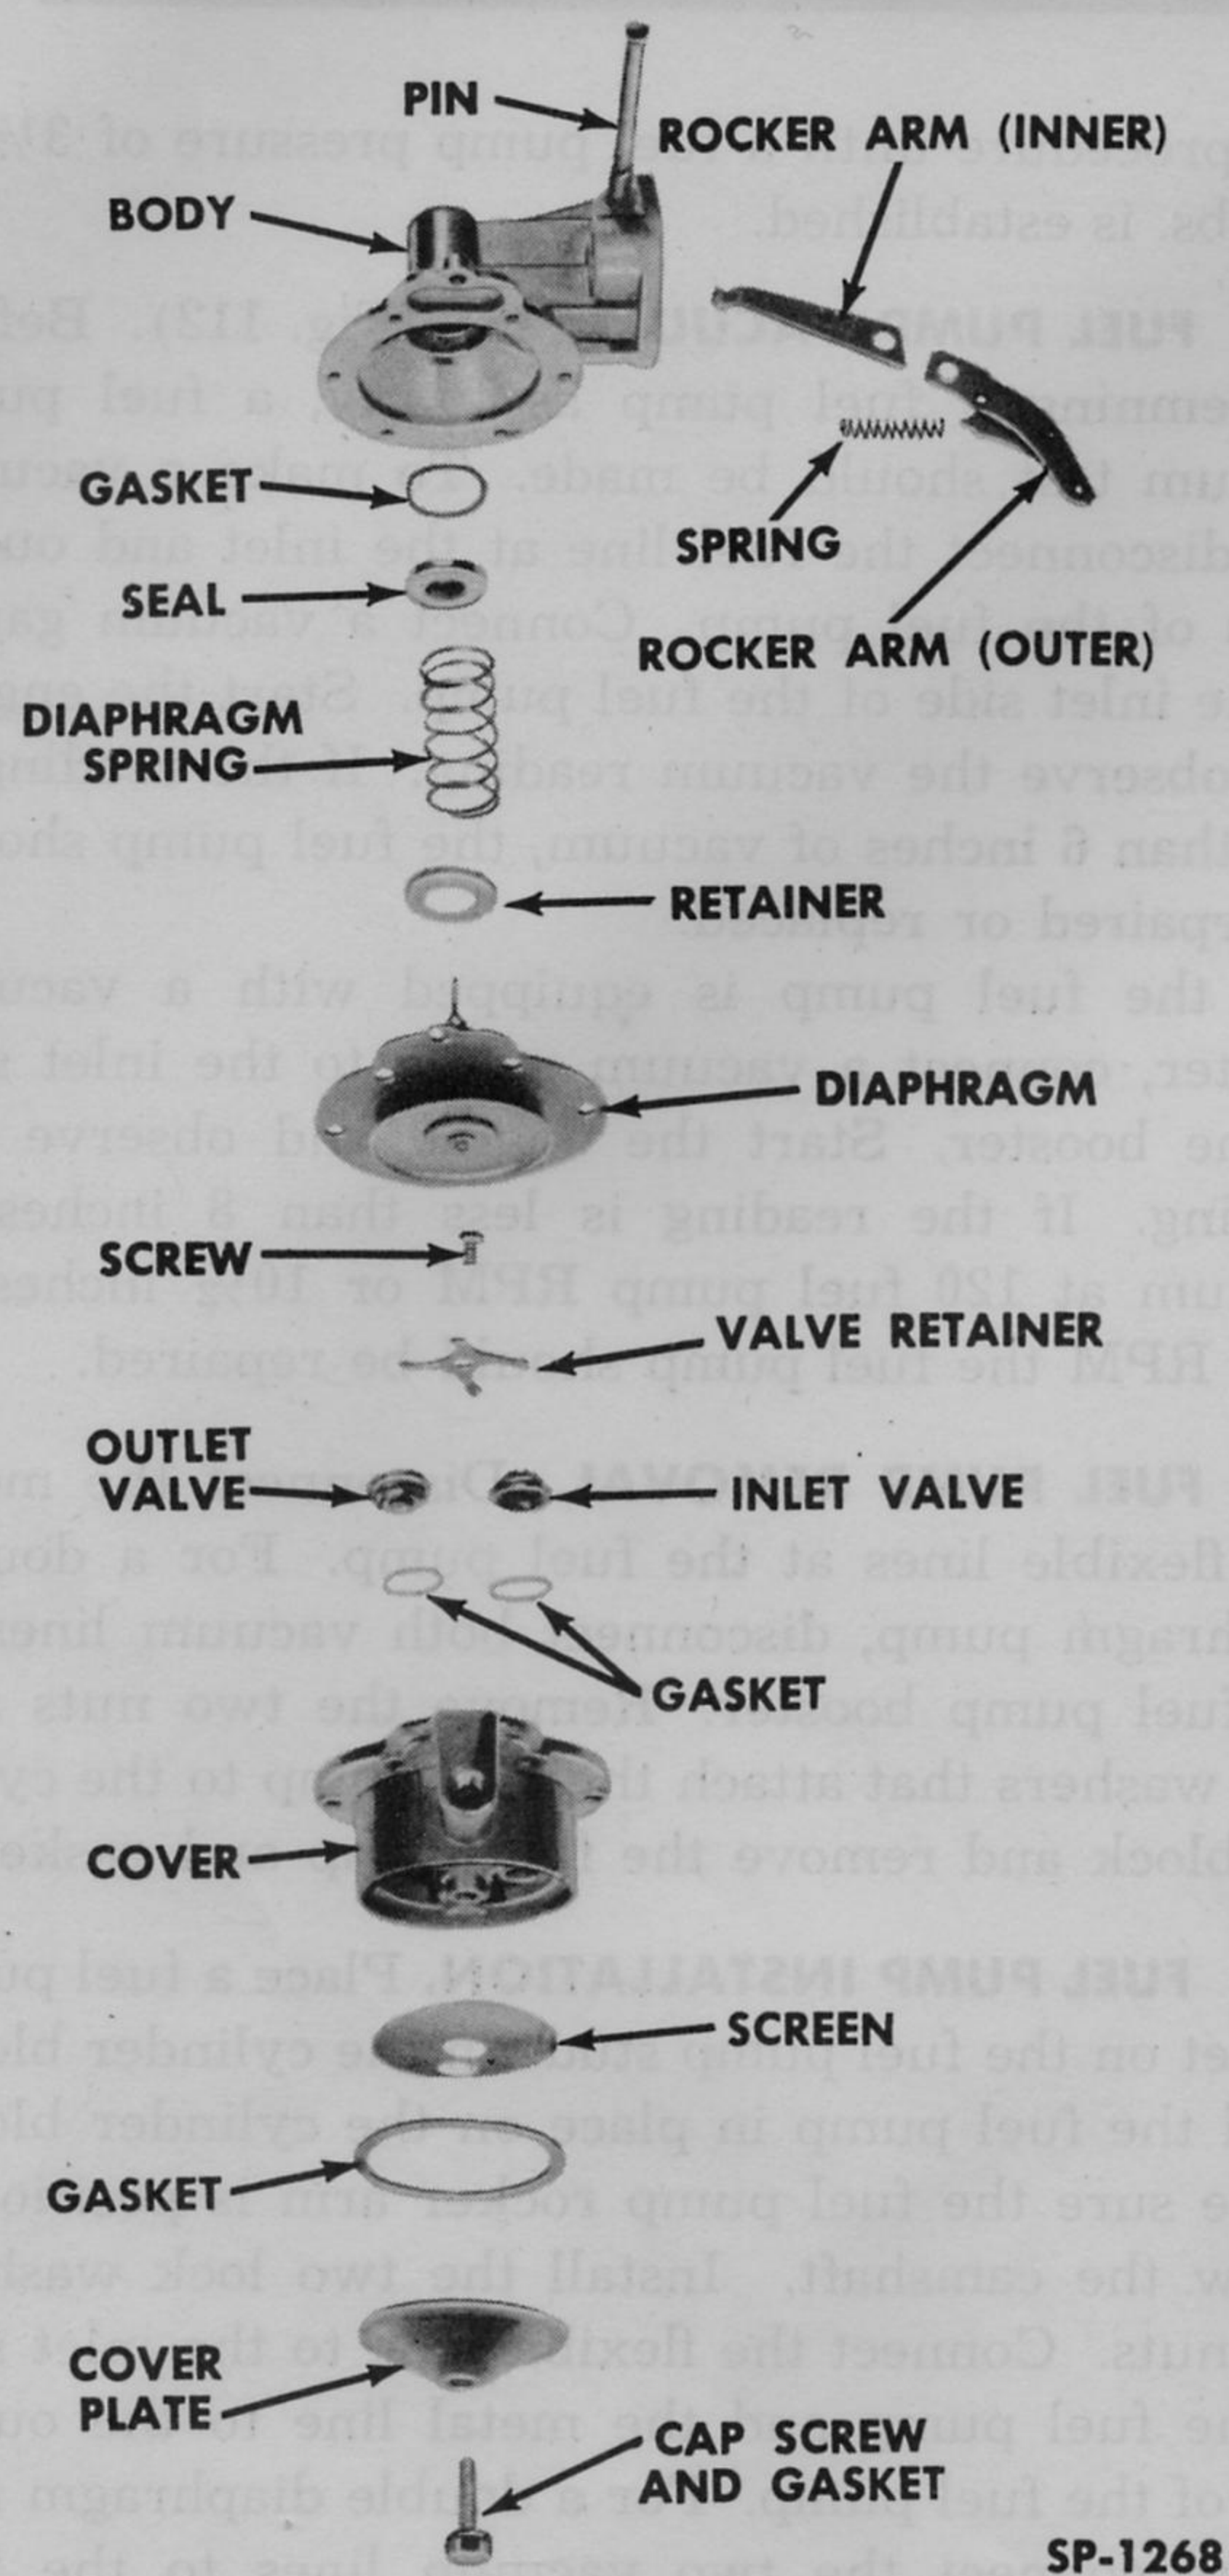

Fig. 113—Single Diaphragm Fuel Pump—Exploded View
a. DISASSEMBLY (Fig. 113). Proceed as follows:
b. INSPECTION. (Fig. 113). It is recommended that Fuel Pump Repair Kit No. 212671 be used when repairing the fuel pump. Clean all parts that are not supplied in the fuel pump kit with a suitable cleaning solvent that will remove all carbon, gum and varnish.
c. ASSEMBLY (Fig. 113). Proceed as follows: